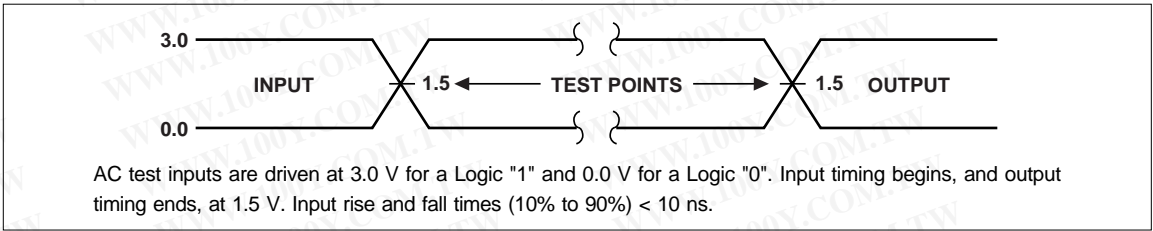
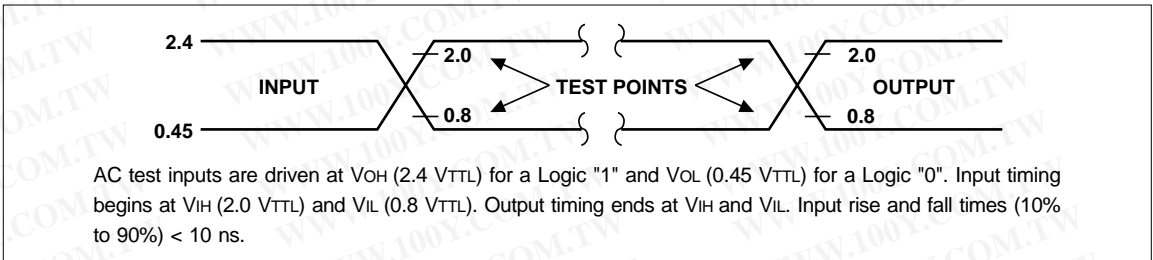
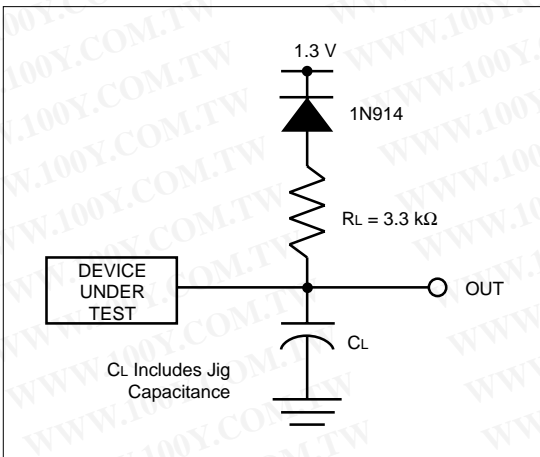

Fig. 12 Transient Input/Output Reference Waveform for $V_{CC} = 5.0 \pm 0.25$ V (High Speed Testing Configuration)
Fig. 13 Transient Input/Output Reference Waveform for $V_{CC} = 5.0 \pm 0.5$ V (Standard Testing Configuration)
Fig. 14 Transient Equivalent Testing Load Circuit
- See AC Input/Output Reference Waveform (Fig. 12 and Fig. 13) for maximum allowable input slew rate.
- See Fig. 12 "Transient Input/Output Reference Waveform" and Fig. 14 "Transient Equivalent Testing Load Circuit" (High Speed Configuration) for testing characteristics.
- See Fig. 13 "Transient Input/Output Reference Waveform" and Fig. 14 "Transient Equivalent Testing Load Circuit" (Standard Configuration) for testing characteristics.